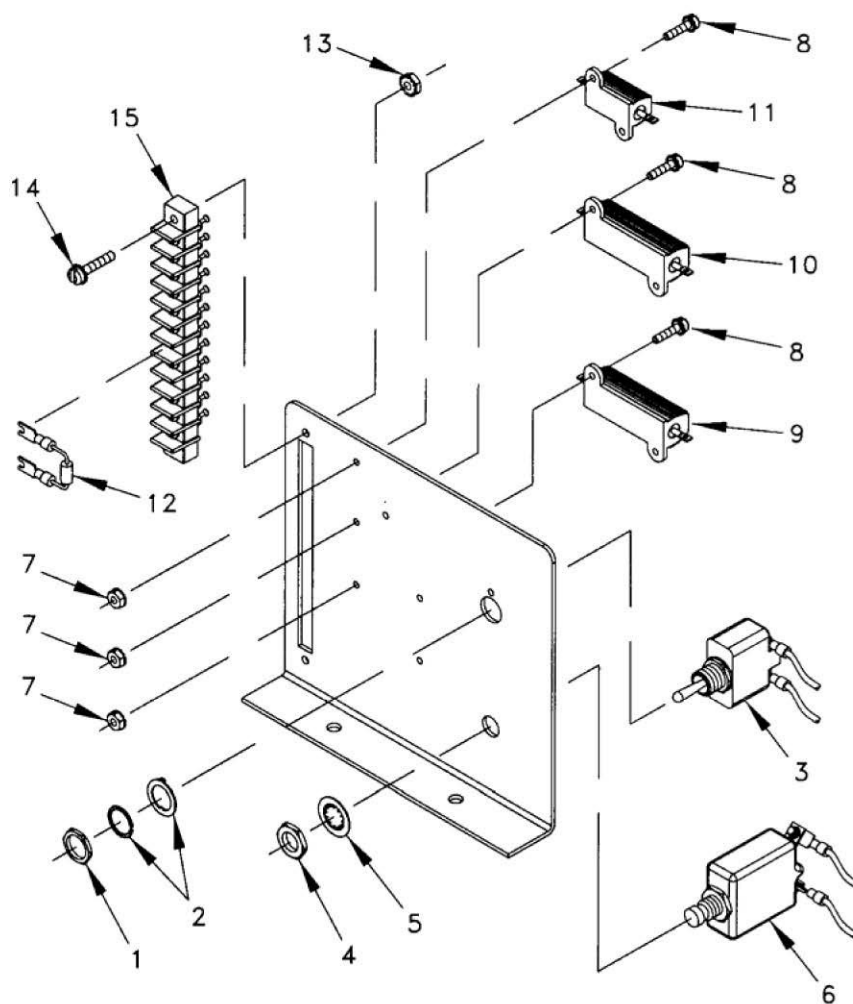

Figure 1. Resistor Assembly A7.
3. Install five screws (Figure 1, Item 14), lock washers (Figure 1, Item 15), and washers (Figure 1, Item 16).
4. Install two screws (Figure 1, Item 11), lock washers (Figure 1, Item 12), and washers (Figure 1, Item 13).
5. Install three screws (Figure 1, Item 8), lock washers (Figure 1, Item 9), and washers (Figure 1, Item 10).
6. Install seven screws (Figure 1, Item 5), lock washers (Figure 1, Item 6), and washers (Figure 1, Item 7).
7. Install ground wire (Figure 1, Item 1) to back of control box terminal (Figure 1, Item 4) with washer (Figure 1, Item 2) and locknut (Figure 1, Item 3).
2. Remove nut (Figure 1, Item 1), washer (Figure 1, Item 2), and ISOCHRONOUS DROOP switch (IDS) (Figure 1, Item 3).
3. Remove nut (Figure 1, Item 4), washer (Figure 1, Item 5), and DC CONTROL POWER circuit breaker CB1 (Figure 1, Item 6).
4. Remove six nuts (Figure 1, Item 7), six screws (Figure 1, Item 8), and resistors R2 (Figure 1, Item 9), R1 (Figure 1, Item 10), and R3 (Figure 1, Item 11).
5. Remove diode CRFF (Figure 1, Item 12).
6. Remove two nuts (Figure 1, Item 13), two screws (Figure 1, Item 14), and terminal board (Figure 1, Item 15).
1. Install terminal board (Figure 1, Item 15), two screws (Figure 1, Item 14), and two nuts (Figure 1, Item 13).
2. Install diode CRFF (Figure 1, Item 12).
3. Install resistors R3 (Figure 1, Item 11), R1 (Figure 1, Item 10), and R2 (Figure 1, Item 9), with six screws (Figure 1, Item 8) and nuts (Figure 1, Item 7).
4. Install DC CONTROL POWER circuit breaker CB1 (Figure 1, Item 6), washer (Figure 1, Item 5), and nut (Figure 1, Item 4).
5. Install ISOCHRONOUS DROOP switch (IDS) (Figure 1, Item 3), washer (Figure 1, Item 2), and nut (Figure 1, Item 1).